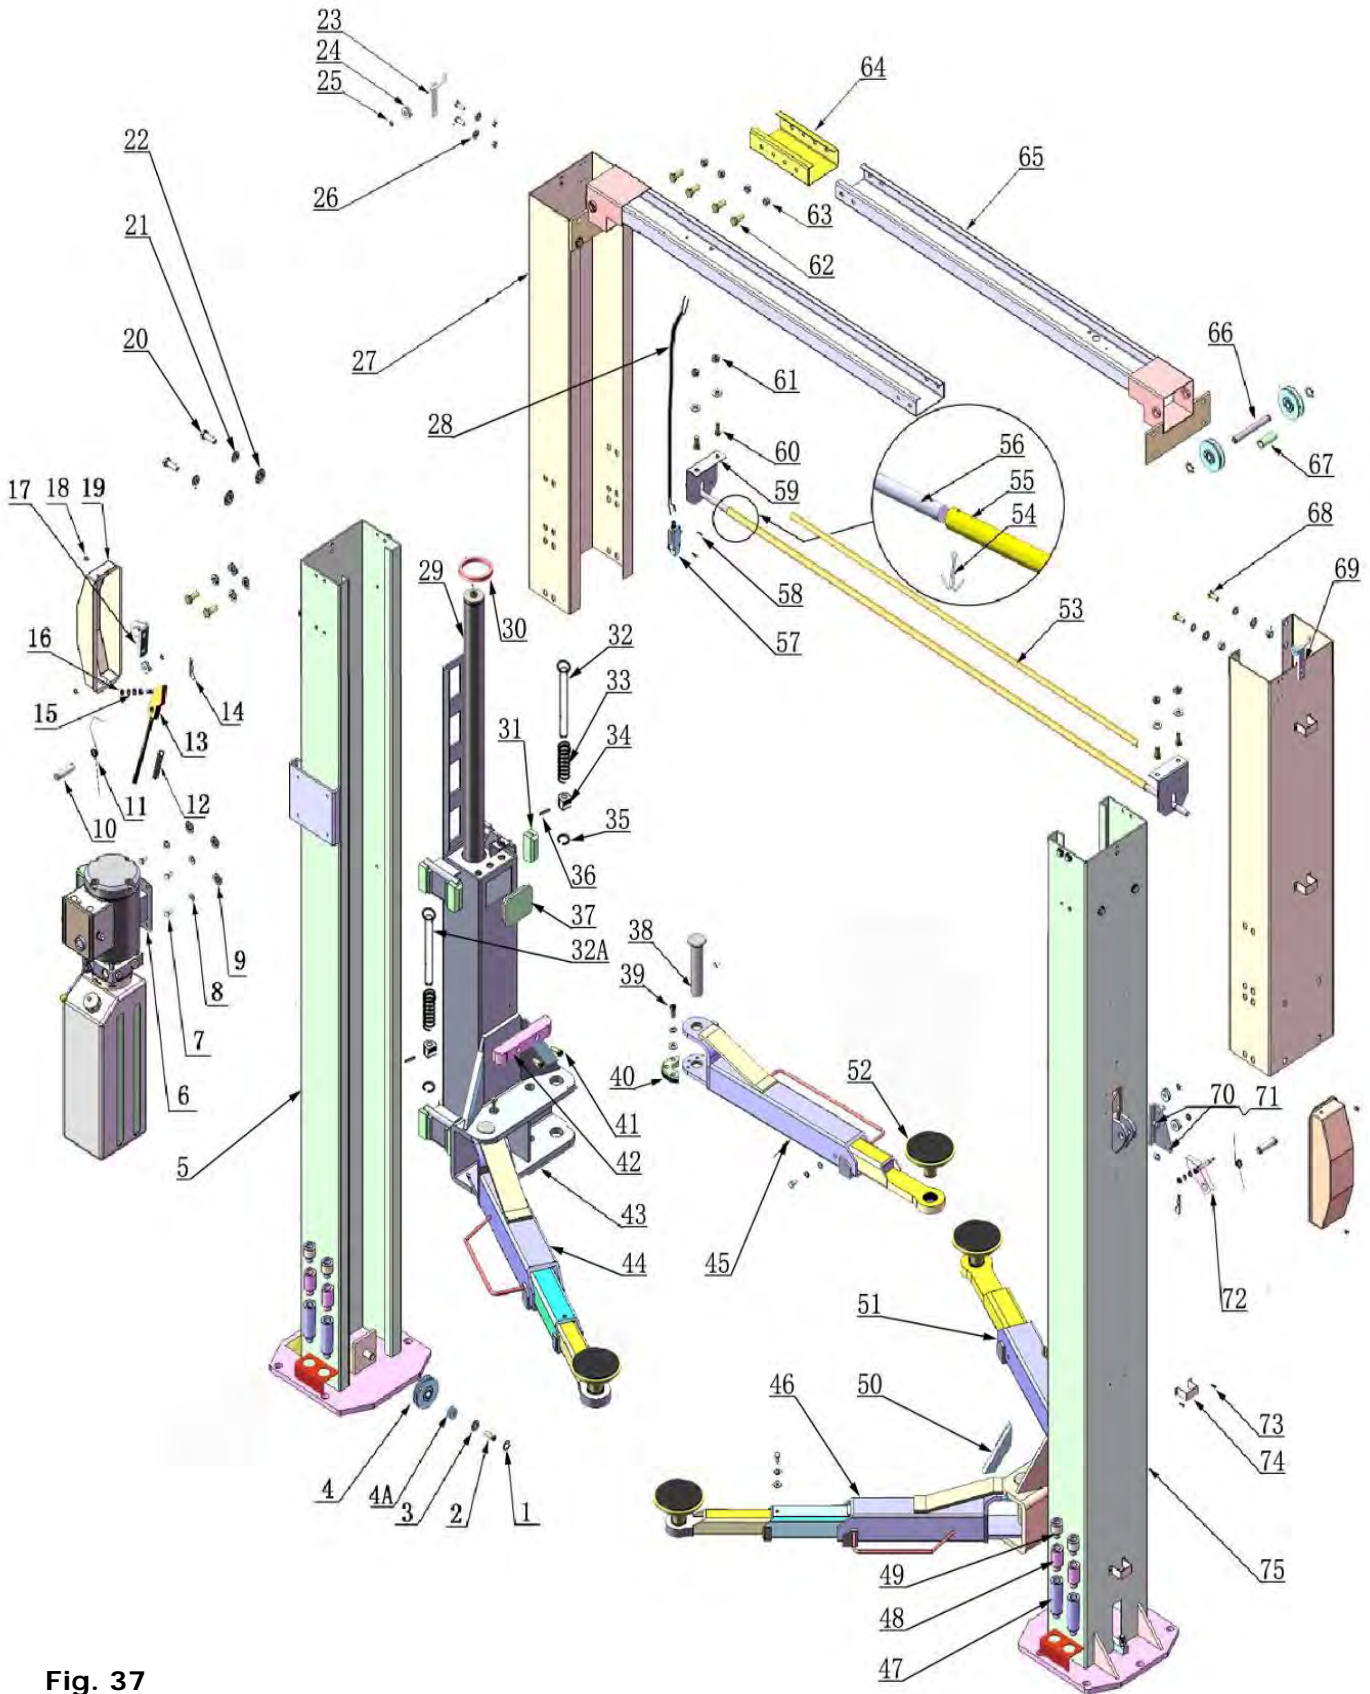

Fig. 37
**IX. Parts List for Model 209C and 209CH (See Fig. 37 & Fig. 4)**